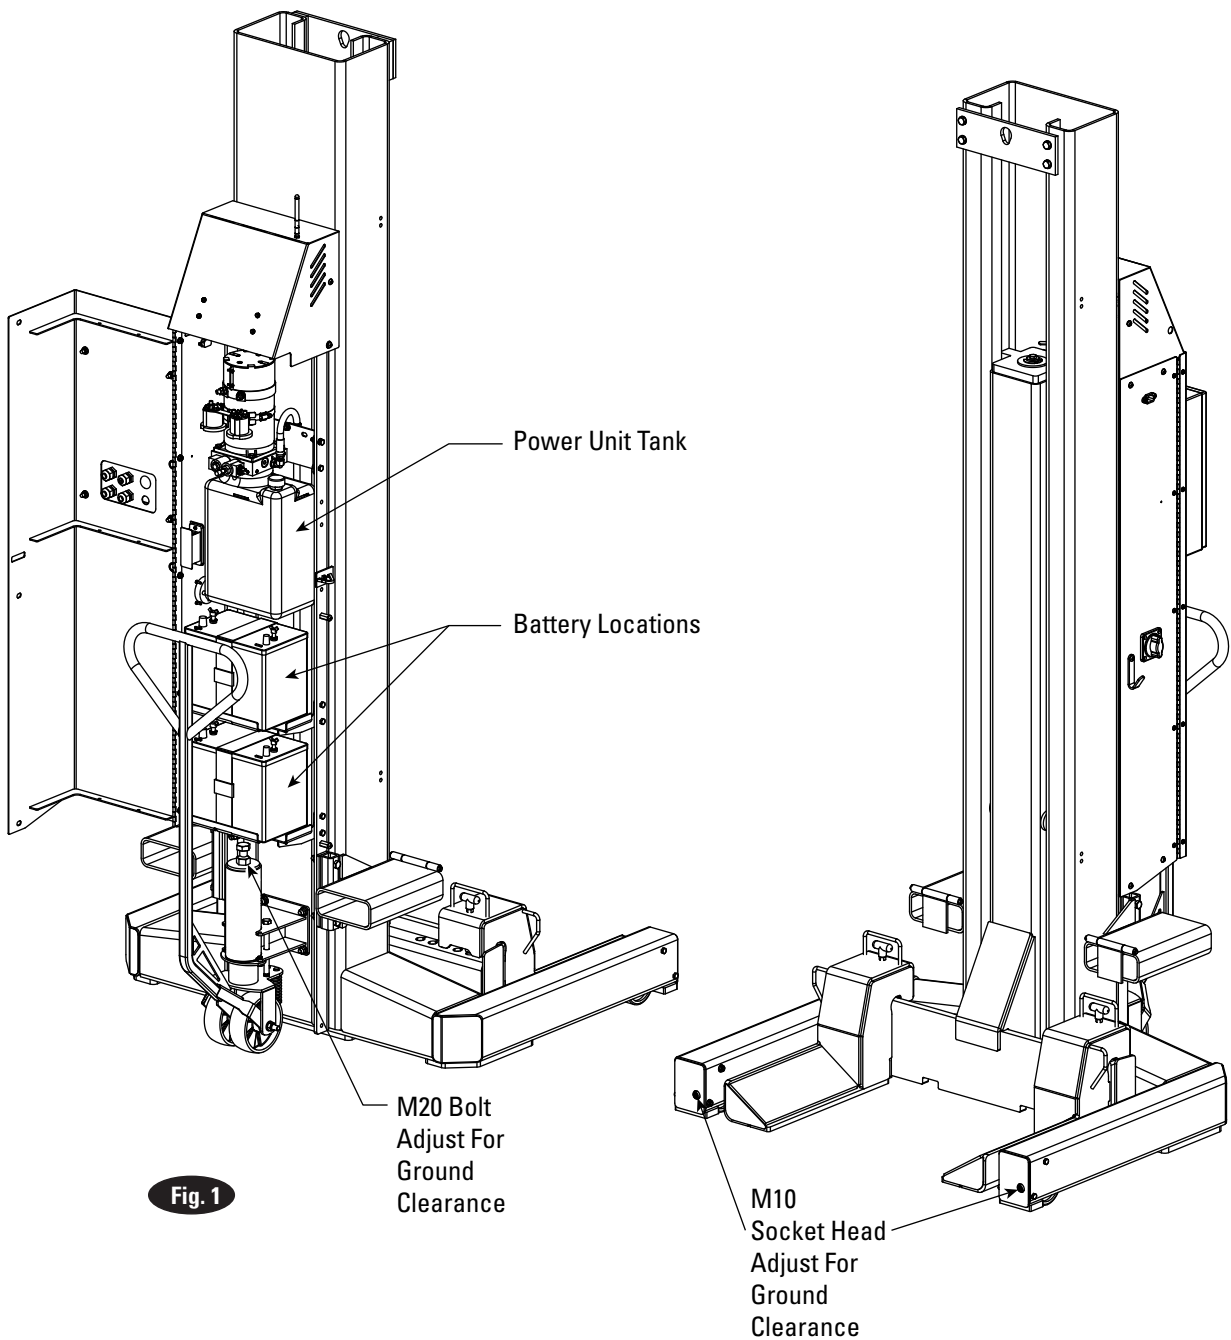

Fig. 1
5. Connect two batteries in location shown, Fig. 1. Different batteries meeting the below specifications may be used but performance can vary.
After the batteries and fluid have been added, screw M20 bolt and M10 socket head bolts clockwise on wheel jack and front of superstructure to adjust unloaded column ground clearance, Fig. 1. Ground clearance is determined by how far the bolts are turned. When the column is loaded, it will automatically lower to the floor.